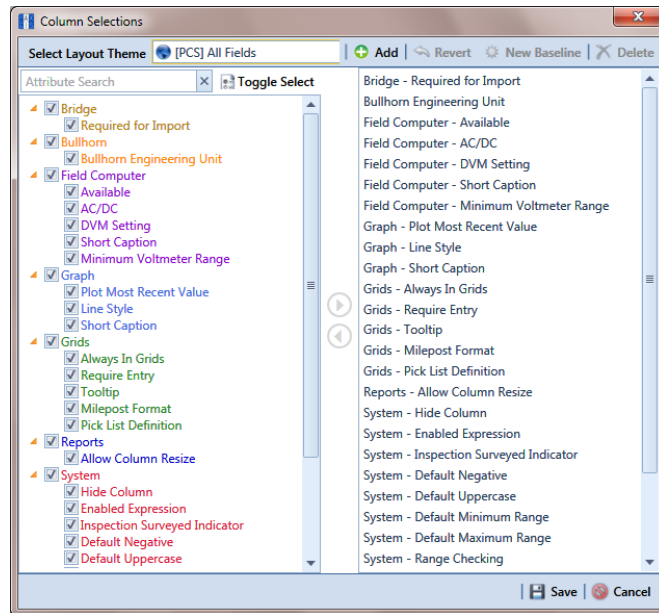

Figure 3-24. Column Selections
- 2 Click  **Customize** to open the *Column Selections* dialog box (Figure 3-24).
- 4 To remove one or more fields in the layout theme, complete one of the following steps (Figure 3-24, page 63):